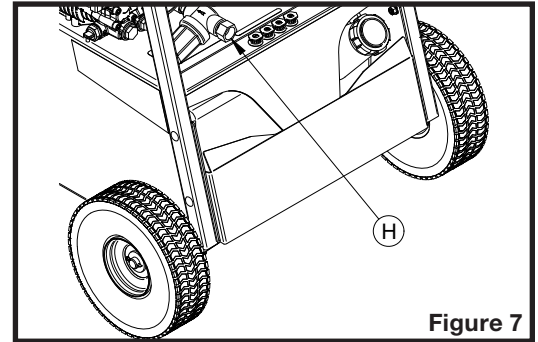

Figure 7
1. Connect a water supply hose to the pump inlet (H on figure 7) and open the hose valve. The supply hose flow rate must exceed the pump flow rate and the pressure must be at least 30 psi but must not exceed 80 psi.